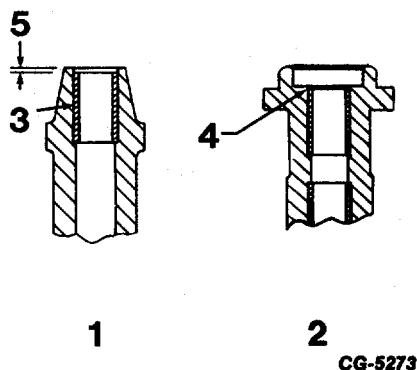

Fig. 32 Lower Bushing Location Dimensions.
- Press lower bushing into housing to dimension shown in Figure 32. On distributors for all engines except V-537, 2.4 mm (3/32 inch) below bottom end of distributor housing.